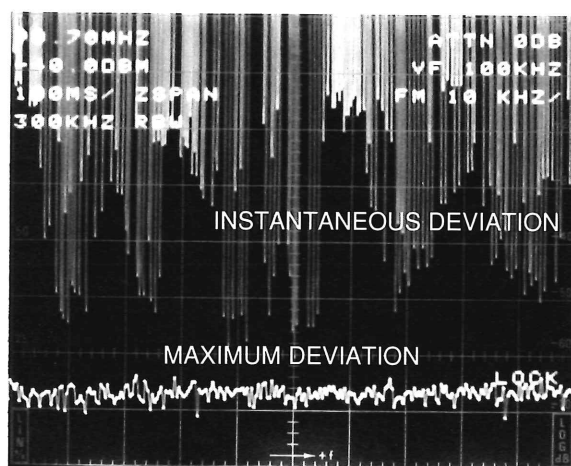

Figure 27. Determining deviation using the FM Deviation/FM Detector mode.
On the 2712 press [APPL]/[7] to select the FM Deviation Mode. A display similar to the upper trace in Figure 27 will appear. It represents the instantaneous deviation of the signal frequency below the carrier (the upward deviation is not viewable). The vertical scale has become a very fast frequency meter. Zero deviation is the top graticule line and each vertical division represents 10 kHz (but you can change the scale to 5 kHz/div or 1 kHz/div using the 10 dB/5 dB/1 dB key if desired). In other words, a signal which descends seven divisions below the reference line has deviated 70 kHz from the carrier.
4. Activate MIN HOLD in register C, and allow several minutes for the display to develop. A ragged line similar to the lower trace in Figure 27 will develop. It represents the maximum downward deviation during the observation period. Its peak values should approach 75 kHz for US broadcast FM stations without SCAs.